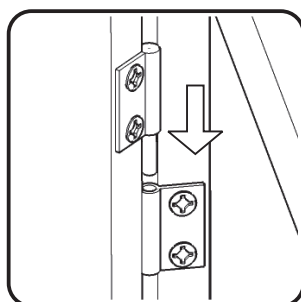

Figure 6
Attach Doors (M) and (N) to unit by sliding door hinges into side panel hinges. (See Figure 6)